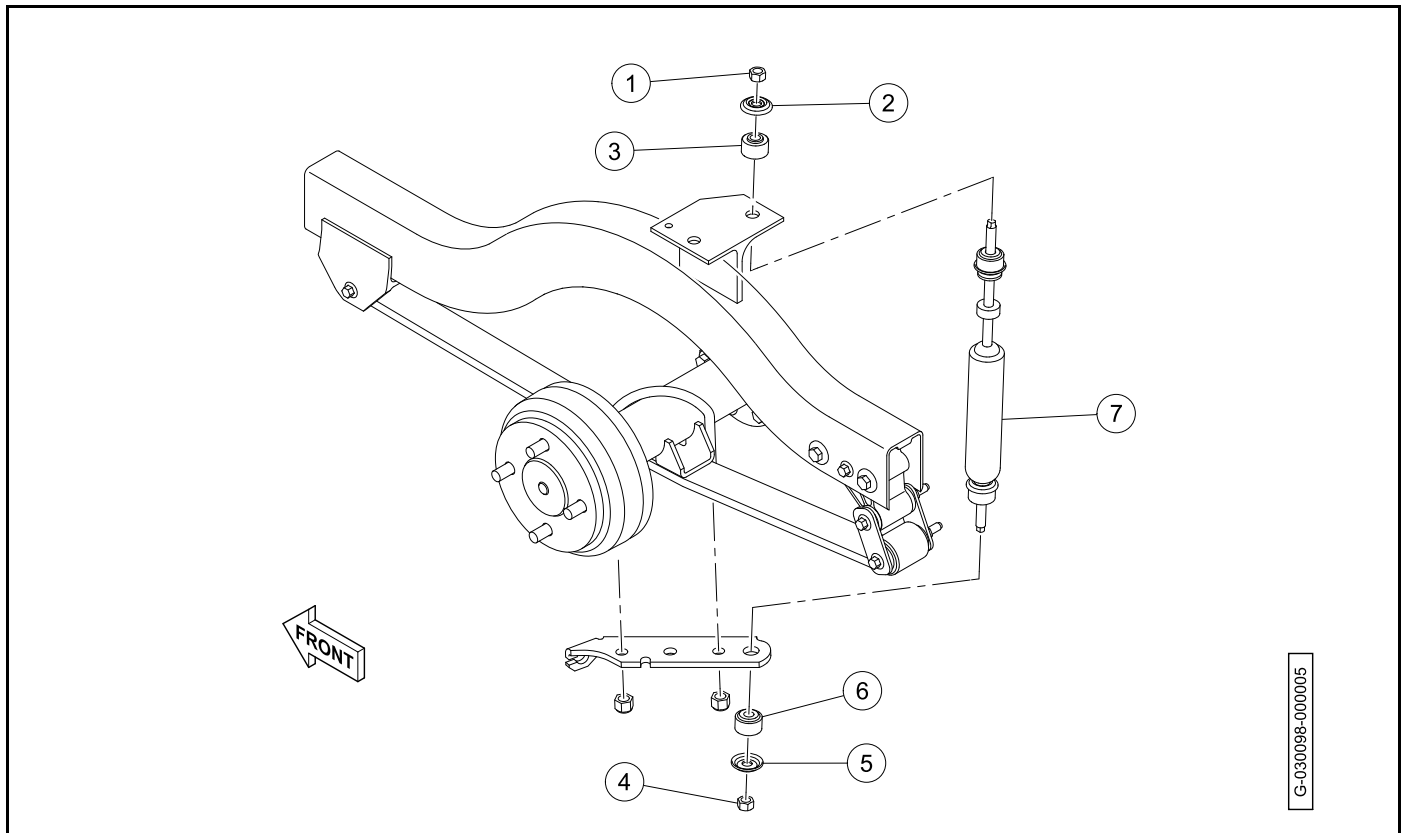

Figure 9-2 Rear Shock Absorber Removal
3. Remove the nut (1), cup washer (2), and rubber bushing (3) from the top of the shock absorber (**Figure 9-2, Page 9-2**).
4. Remove the nut (4), cup washer (5), and rubber bushing (6) from bottom of the shock absorber.
5. Compress and remove the shock absorber (7).